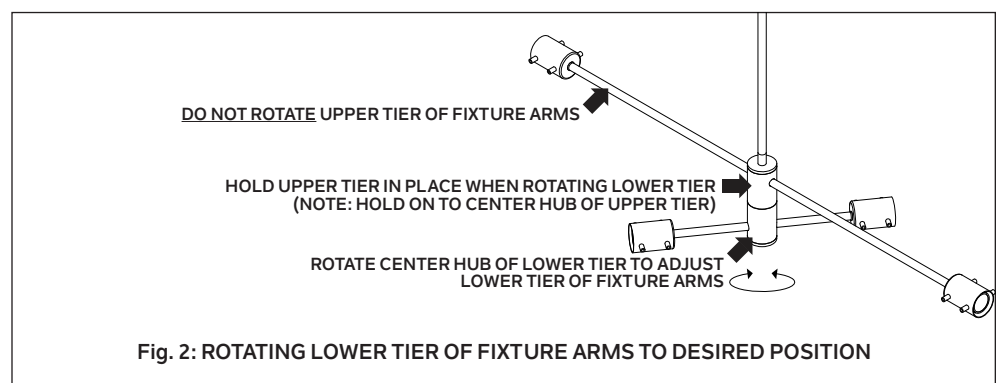

Fig. 2: ROTATING LOWER TIER OF FIXTURE ARMS TO DESIRED POSITION
- While holding the upper tier [L] of fixture arms in place (**NOTE: Hold on to the center hub of the upper tier**), rotate the lower tier [M] of fixture arms into desired position as shown below (**NOTE: Rotate the center hub of the lower tier**). See Fig. 2: